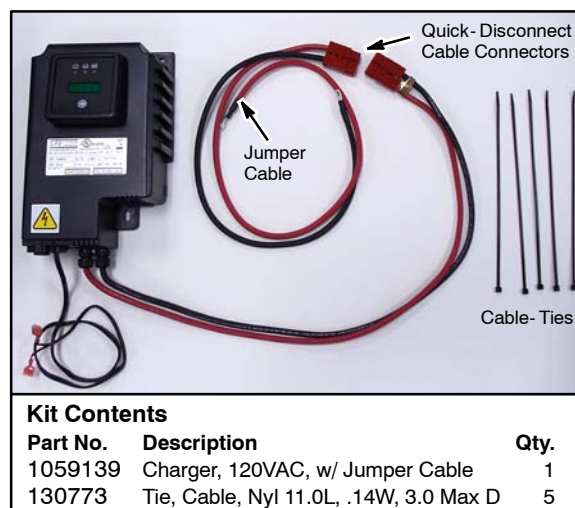

**Fig. 1**
3. Remove the right side panel from machine to allow for battery removal (Figure 1).